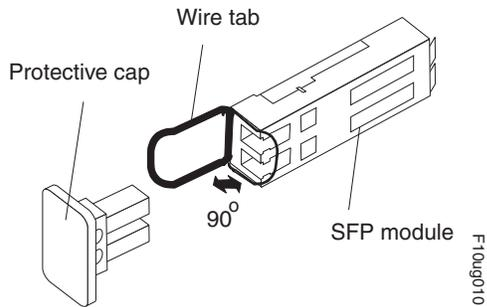

Figure 48. Unlocking the SFP module latch - wire variety
- For SFP modules that contain wire tabs, unlock the SFP module latch by pulling the wire latch outward 90°, as shown in Figure 48 on page 62.